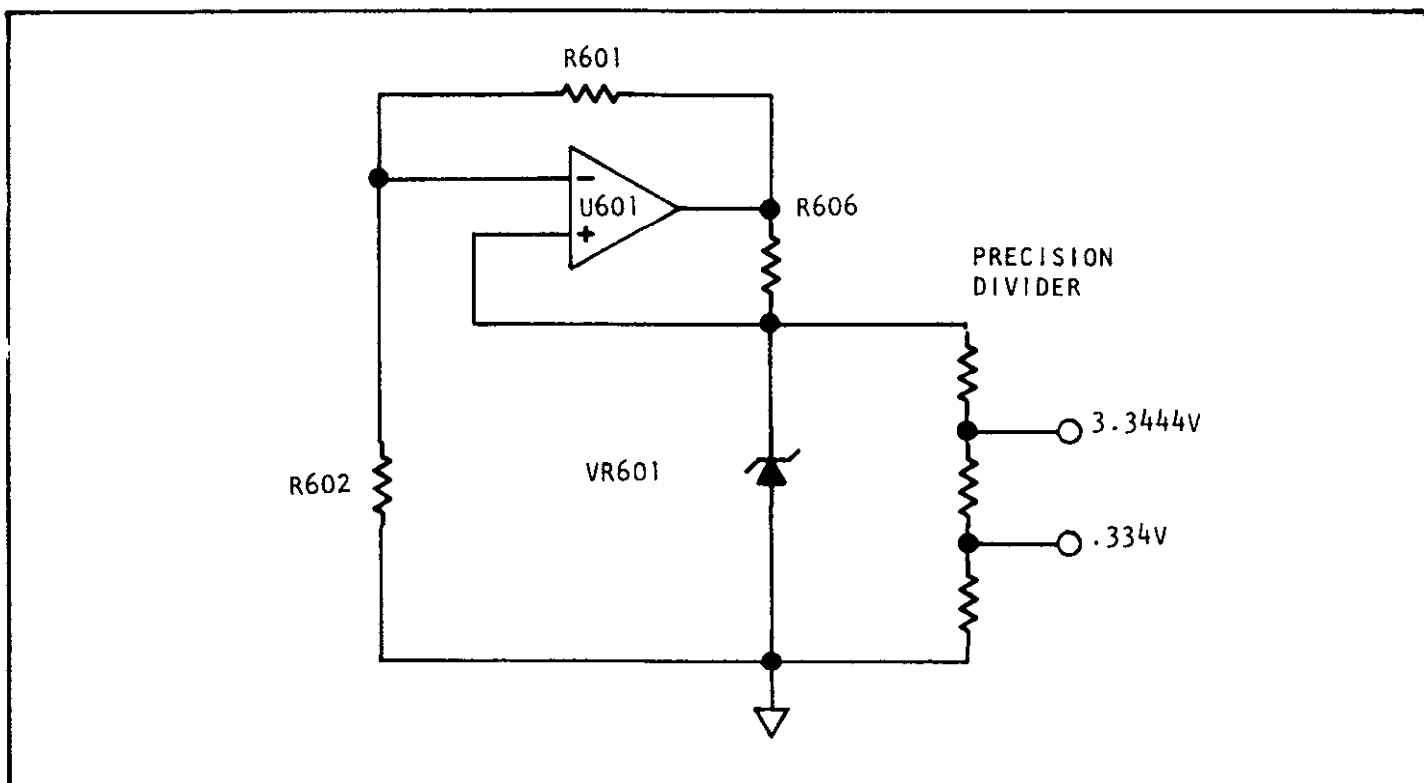

FIGURE 5-16. Simplified Schematic of Reference Supply.
g. Reference Supply. Although not actually a part of the A/D converter circuitry, the reference supply (shown in Figure 5-16) furnishes the stable known voltages required to auto calibrate the A/D converter. These voltages are also used in the ohms converter circuitry. The heart of the reference supply is a stable, low temperature coefficient zener diode. It is driven from a constant current (nominally 7.5mA) developed by amplifier U601. With the zener current well regulated, it is immune to power supply variations. The output divider resistors are part of a precision resistor network which provides very stable reference voltages. R606 and the input resistors of the divider are specially selected (depending on the zener voltage) to provide a nominal 200 μ A of current to the divider. The zener voltage is between 6.15 and 6.5 volts, with the resistors matched accordingly.